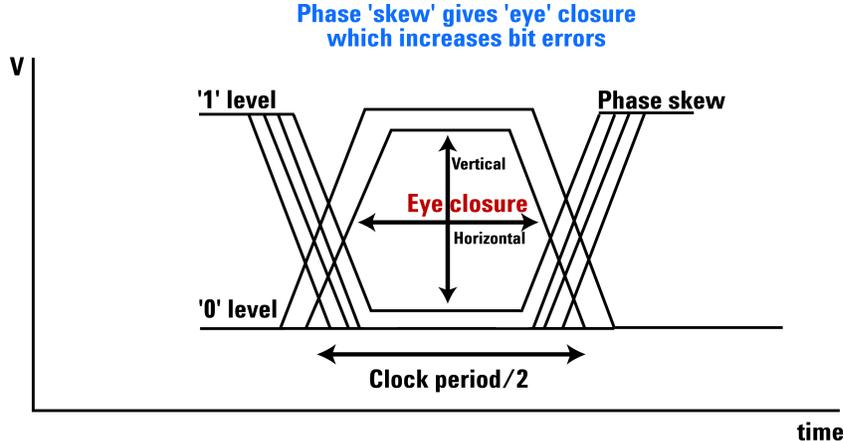

Figure 5
- **AC or DC coupling** – DC coupling can introduce unwanted DC offset. This offset will affect pulse shape and can lead to degraded error performance by causing vertical eye closure (see Figure 5). AC coupling is more popular as it avoids this issue.
- **Voltage Offset** – with some semiconductor technologies the input or output signal must be biased to center around a specific voltage. Interfacing circuitry will have to match this to avoid reduced measurement accuracy through vertical eye diagram closure (see Figure 5).
- Signal phase relationships** – especially for 3R devices with differential outputs it is critical that all signal path lengths are identical to avoid measurement inaccuracy due to phase ‘skew’. At 2.5 Gb/s the pulse period is 400ps. 1cm of cable will give approx 100ps of phase change. Phase skew will in practice cause horizontal ‘eye’ closure (see figure 5.) causing innacurate BER and Jitter measurements. If the device to be tested has differential inputs the cabling, and possibly switching devices, will need careful design.